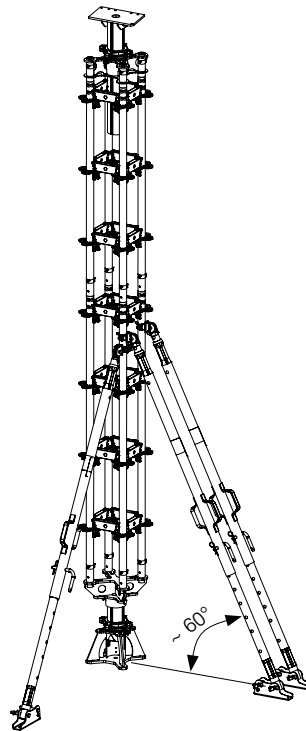

Fig. A3.01
1. Connect the tube coupler of the Brace Connector HDR (9) to the Standard UVR. (Fig. A3.01)
5. Release prop from crane. (Fig. A3.01)